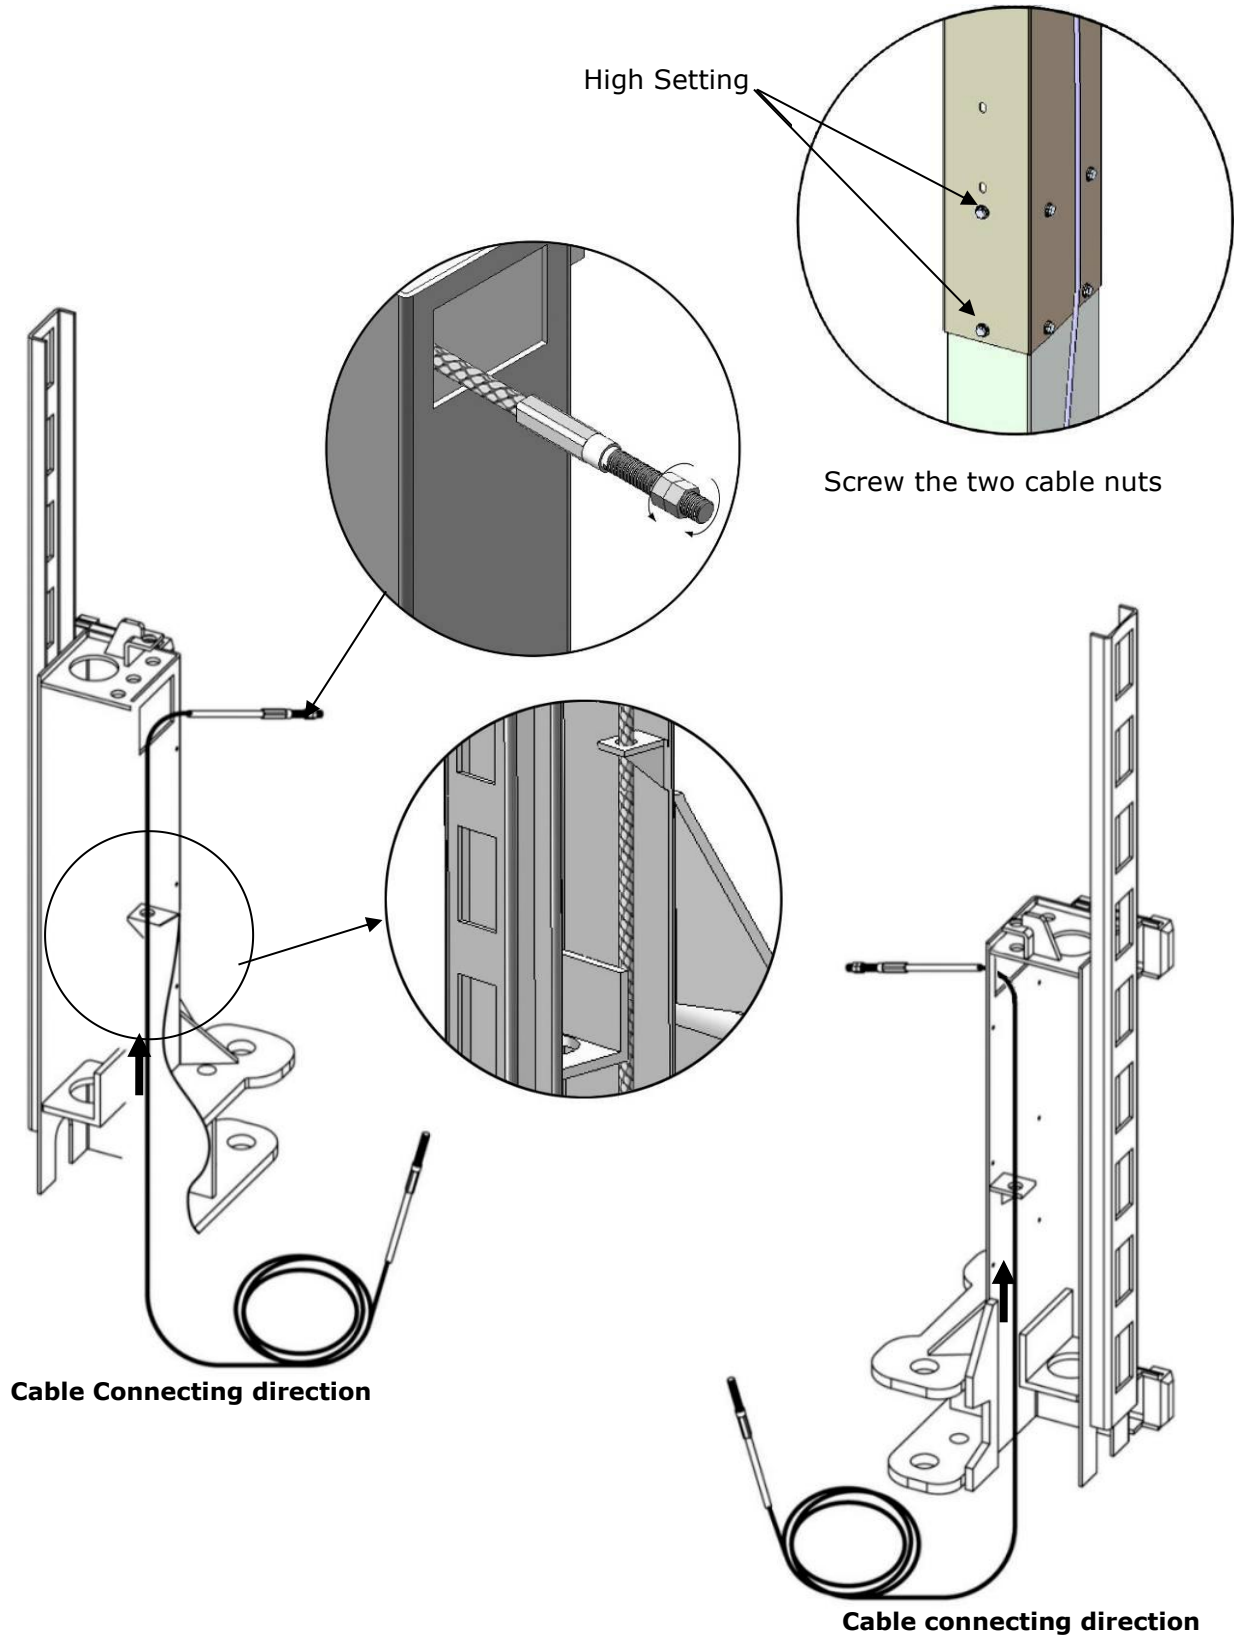

Fig. 25
2.1. Cable cross over from the bottom of the carriages and be pulled out from the open of carriages, then screw the two cable nuts (See Fig. 25).